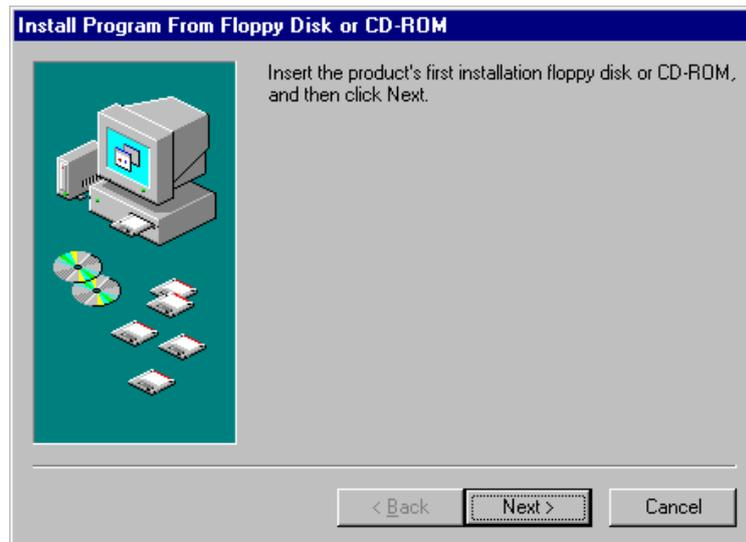

Fig. 12.4 [Install Program From Floppy Disk or CD-ROM] dialog box
- (3) Select [Install/Uninstall], and then click the <Install...> button. The dialog box shown in Fig. 12.4 will be displayed.